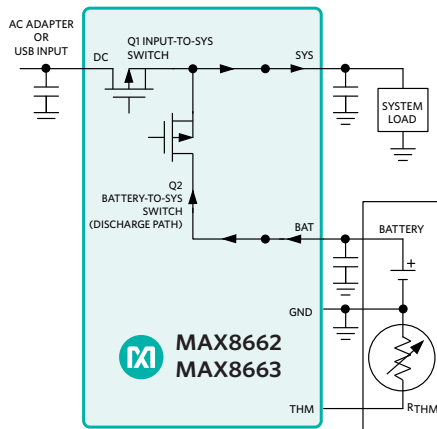

Figure 7. Power Path When $I_{LOAD} > I_{DC}$
- a) When the system load requirements exceed the capacity of the external power input (*Figure 7*), the battery supplies supplemental current to the load.